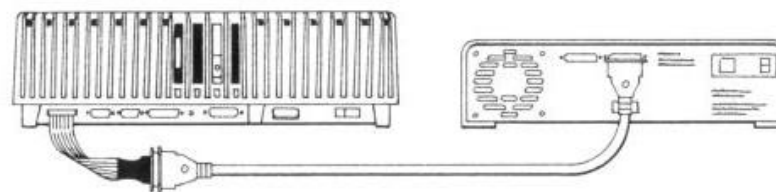

Figure 2-15. Hardware Configuration (Apple ///)
5. Your hardware configuration so far (assuming your system has no external diskette drive(s) described in step 2) should appear as illustrated in Figure 2-15.